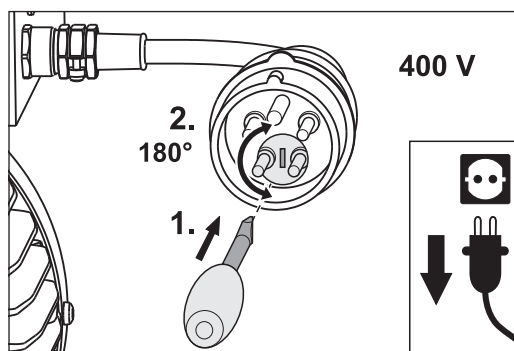

Fig. 18 Change the rotation direction of the motor.
- 2 Put a screw driver in the slit of the phase changing switch at the motor cable (Fig. 18, 1.).
- 3 Turn the screw driver 180° (Fig. 18, 2.).